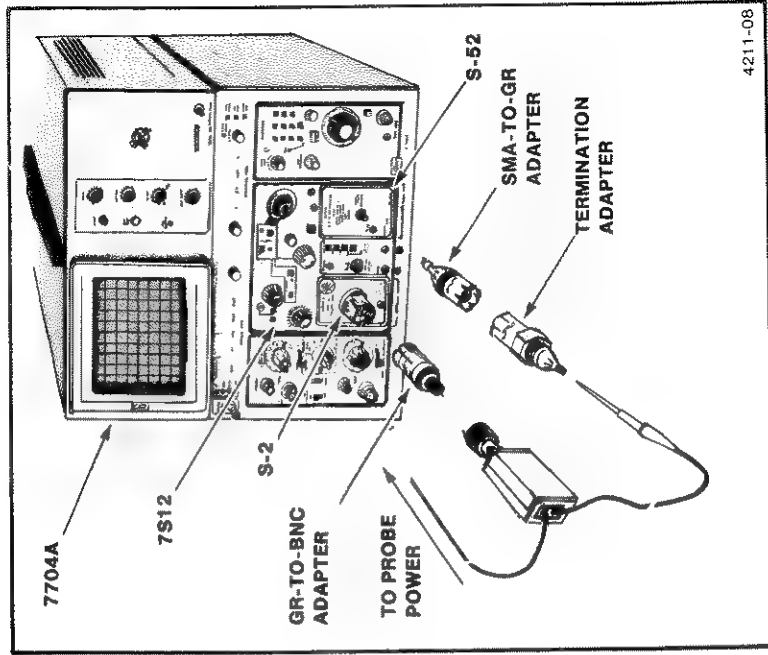

Figure 3-1. High-frequency check setup.
a. Connect the test setup as shown in Figure 3-1.